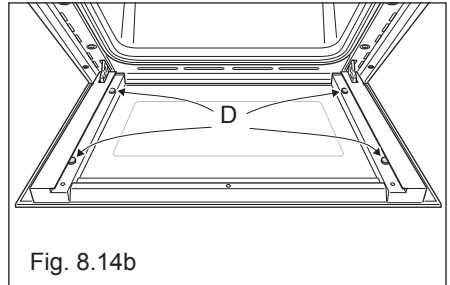

Fig. 8.14b
- Check the correct positioning of the no.4 (four) silicon rubbers "D" (fig. 8.14b).